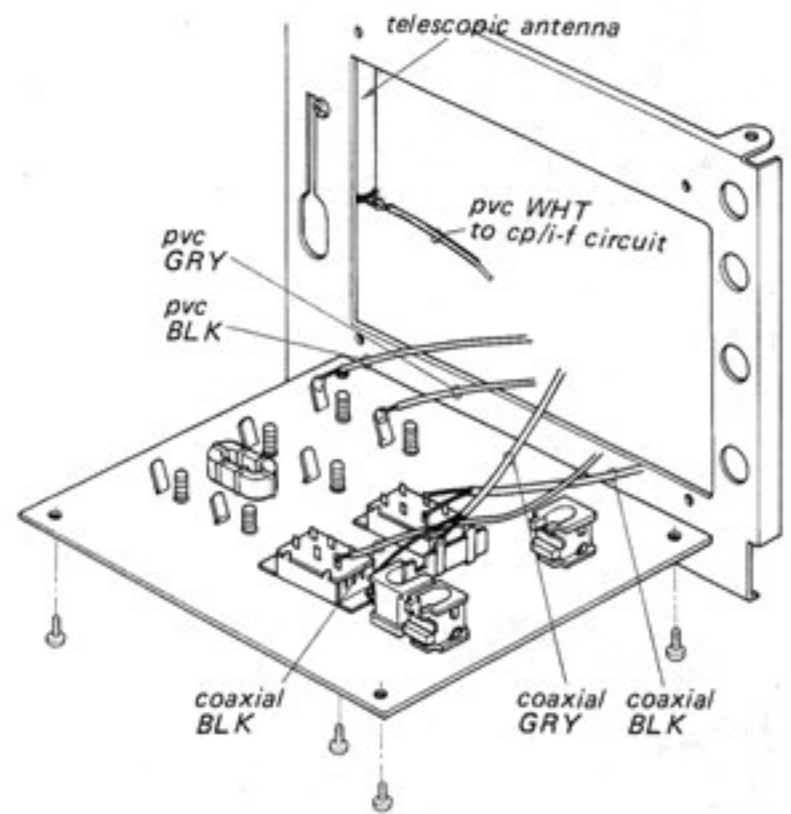
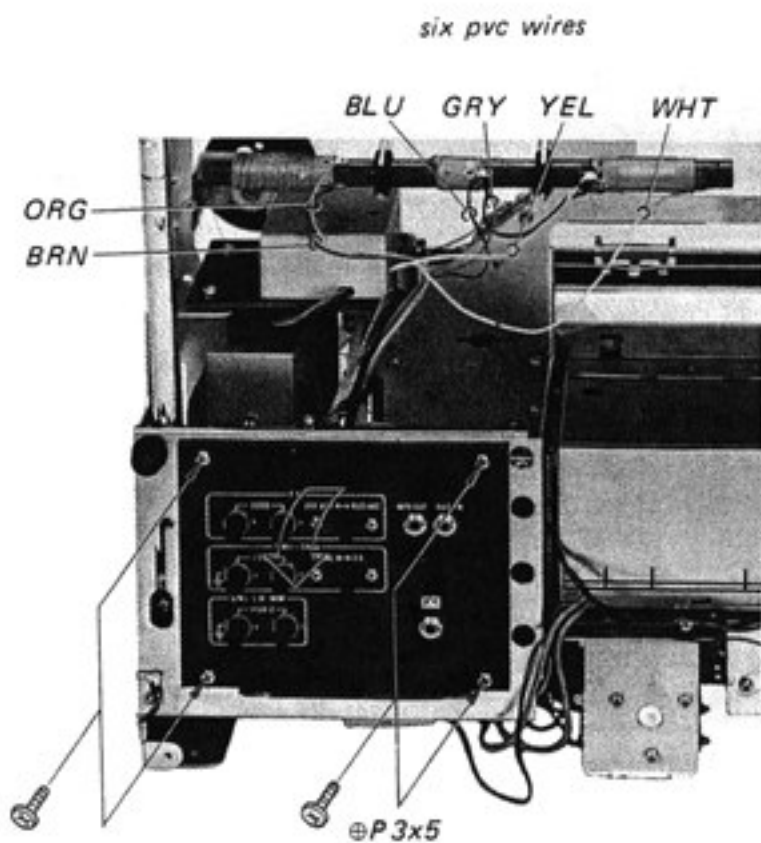

Fig. 2-11
Fig. 2-10
3. Remove the four screws at the jack panel as illustrated in Fig. 2-10 and unsolder the six lead wires shown in Fig. 2-11.
2. Unsolder the six lead wires at ferrite bar antenna as shown in Fig. 2-10.